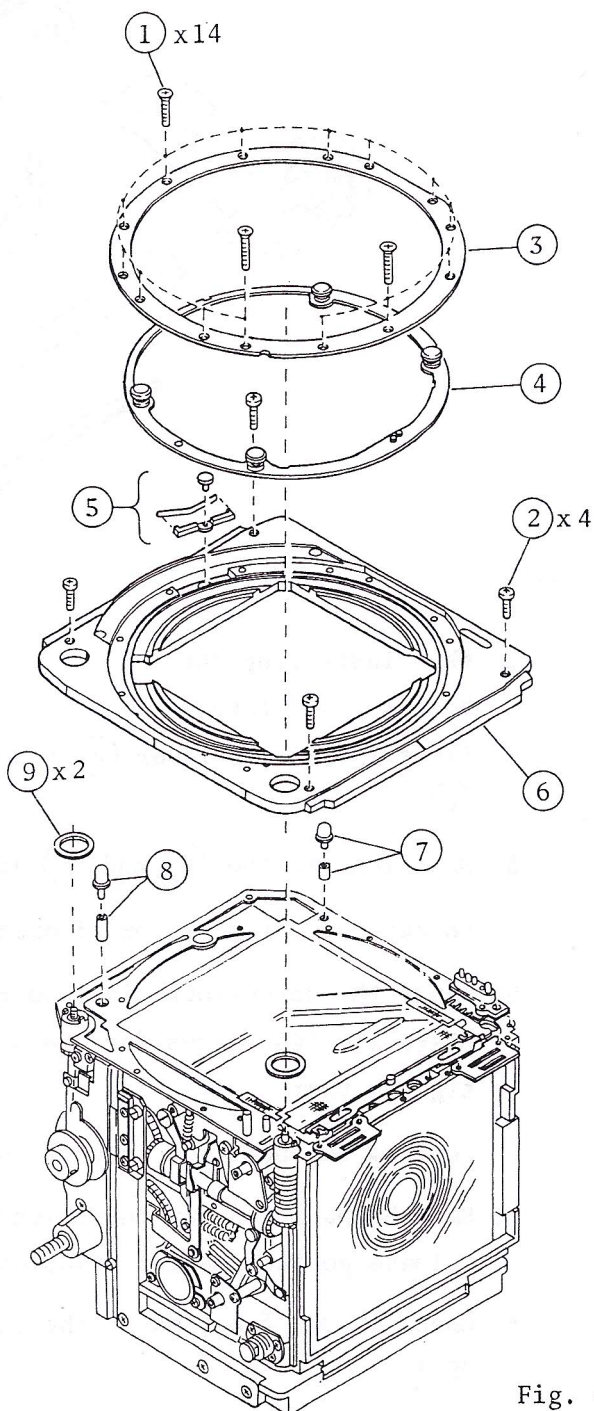

Fig. 48
1. Remove the back plate and the revolving ring previously as shown in Fig. 48.